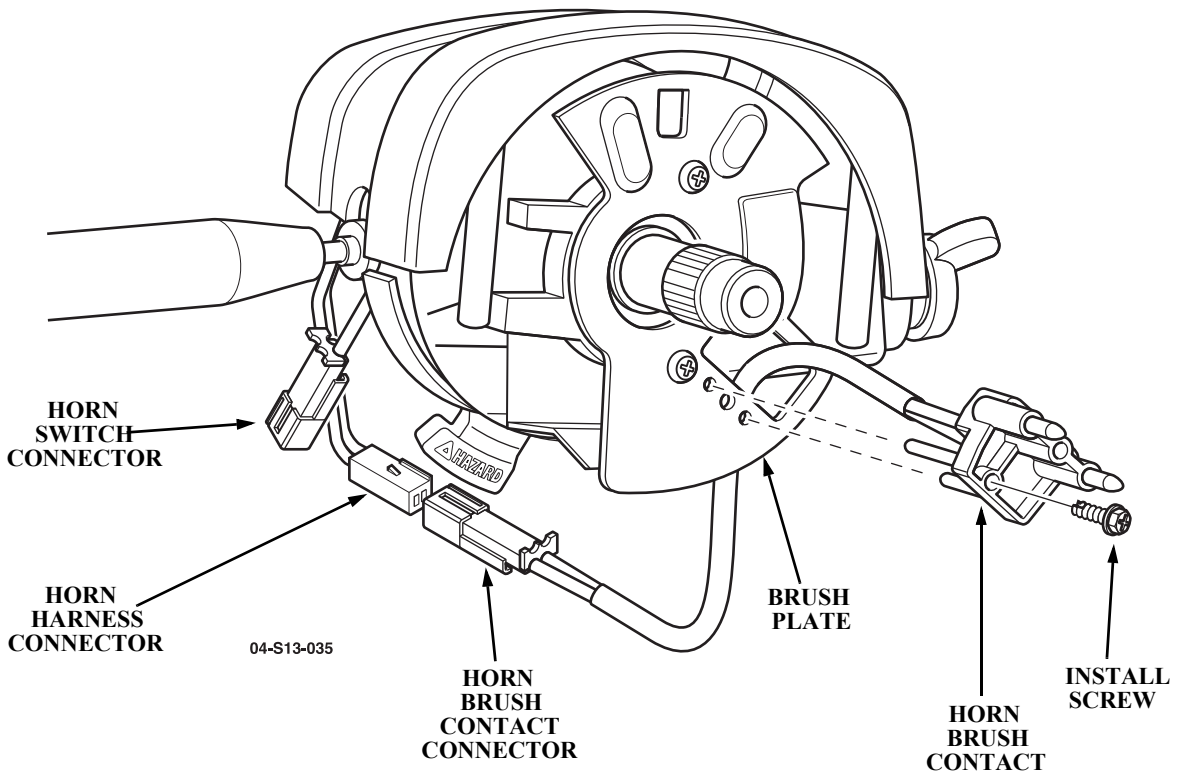

Figure 1: Steering column.
5. Disconnect the original horn switch (turn signal stalk) connector from the horn harness. (See Figure 1)